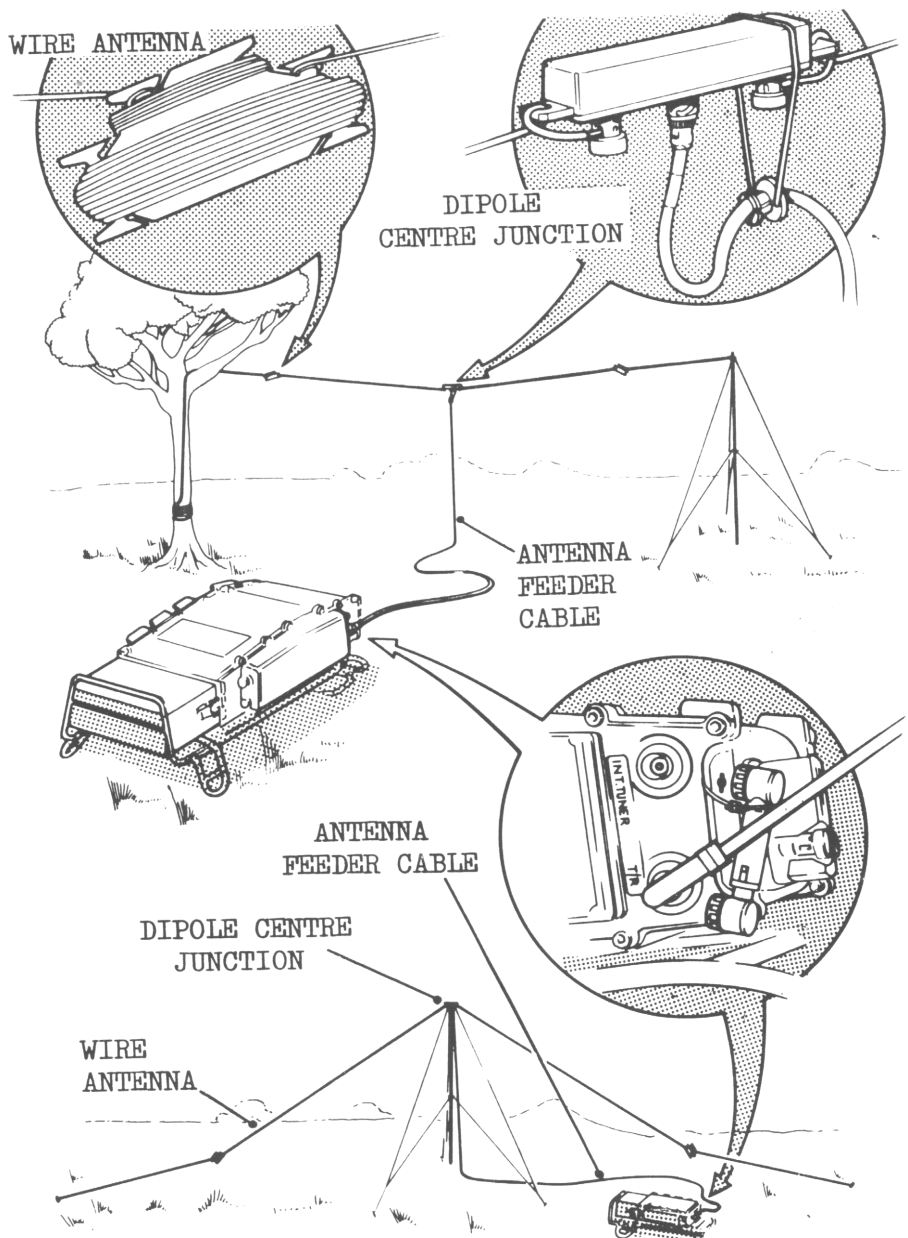

Fig.12 Dipole Configurations
SKY WAVE DIPOLE AND END-FED ANTENNAS (Fig.12,13,14, pages 37,38,39)
2.18 The dipole configurations which give best results at maximum range are shown in Fig.12. The setting up procedure for these configurations is as follows:-
2.18.3 Erect the horizontal dipole as shown in Fig.12 (the side of a house or wall could be used instead of a tree), using a suitable weight, such as a jack knife, on the throwing cord to get the wire or cord through the branches of the tree. Tie off the cord in the same way as the antenna wire.
2.18.4 When only a 5.4m mast is available to support the antenna, a centre supported dipole can be used. This dipole is erected as shown in Fig.12 and the dipole centre junction is secured to the top of the mast with a length of cord. The bobbins of the wire antennas are supported by securing the throwing cords to the spare stakes included in the mast kit.